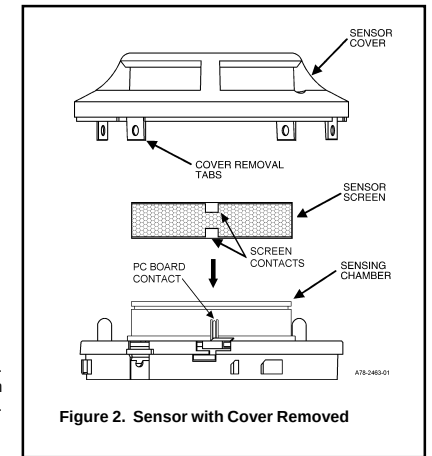

Figure 2. Sensor with Cover Removed
- Remove the detector cover (Note: Regulations in some countries may prohibit this operation on ionisation type sensors). Use a small flat blade screwdriver to gently release each of the four cover removal tabs that hold the cover in place. (See Figure 2)